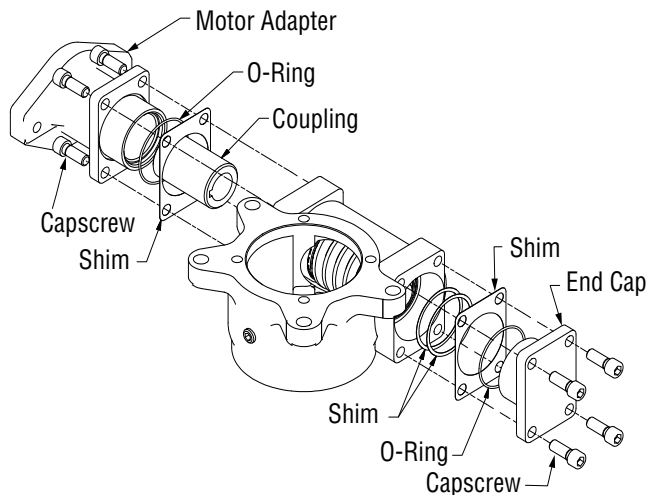

Figure 5-30, End Cap/Motor Adapter
9. Remove the end cap and motor adapter. Make note of any installed shims. Capscrews are installed with Loctite, so use a long handle wrench to break them loose. (Figure 5-30)